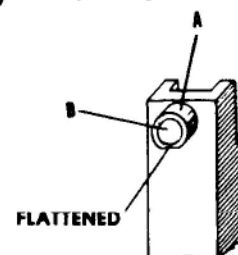

Figure 6
(Q) FORMER ROLLER PART NO. A-310—The former roller part No. A-310 is mounted on the rear of the former housing part A-315 by means of the roller stud A-311. It rides in the track of the former cam part No. A-346 and is the means by which the former and driver assembly AA-315 is raised and lowered for each stroke. Excessive compression of the work material or jamming of the machine will cause the roller to flatten, as in figure 6. Lack of oil will cause this part to bind on the stud and not rotate properly. More often, the lack of oil will cause the roller to wear on the stud, creating a loose fit. See Fig. 6 Detail A Roller and Detail B Stud.